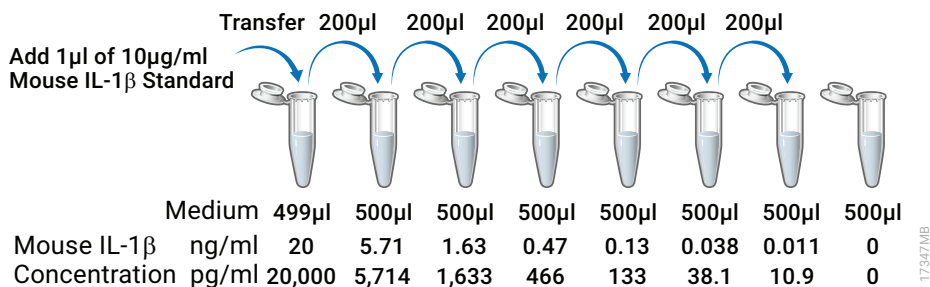

Figure 3. Mouse IL-1β dilution series.
3. Prepare an initial concentration of 20ng/ml mouse IL-1 β by diluting Mouse IL-1 β Standard (10 μ g/ml) 1:500 in cell culture medium (typically DMEM + 10% FBS for mouse cells). For example, prepare 500 μ l by adding 1 μ l of the Mouse IL-1 β Standard to 499 μ l of culture medium. (See Figure 3.)